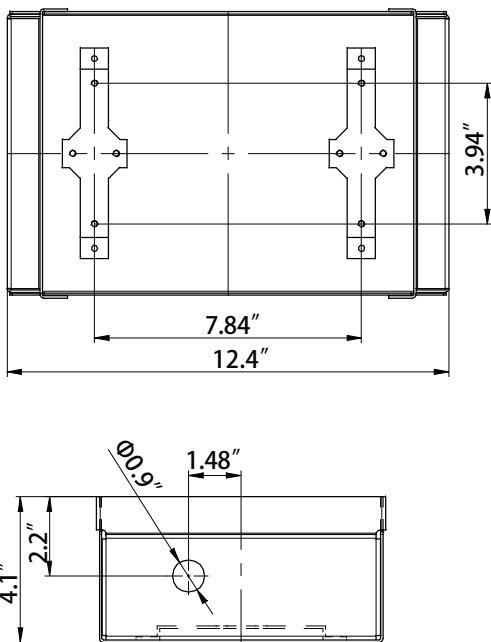

Figure 1
1. Leave space for Embedded Mounting Box according to the dimension. See Figure 1.